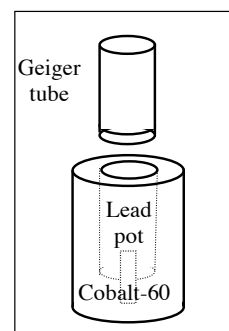

Figure 1 Set-up
- Now read the source safety sheet and then ask a demonstrator for your Cobalt-60 source. Make a note of the source ID. Place the Geiger tube just above the mouth of the lead pot — see figure 1. We want to make repeated measurements of the number of counts in a fixed time, say one second — the procedure for doing this is slightly different for instruments from the two manufacturers: